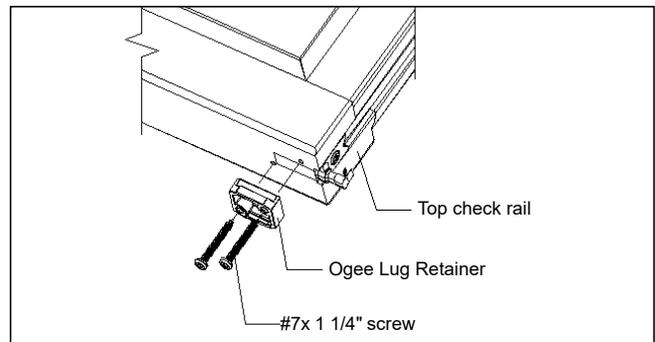

Figure 3
4. Use the power drill and 7/64" drill bit to drill pilot holes 7/8" (22) deep at the points marked on the sash. See figure 3.
5. Attach the lug retainers to the sash with two #7 x 1 1/4" screws. See figure 3. **Install the top sash** before proceeding to the next step.